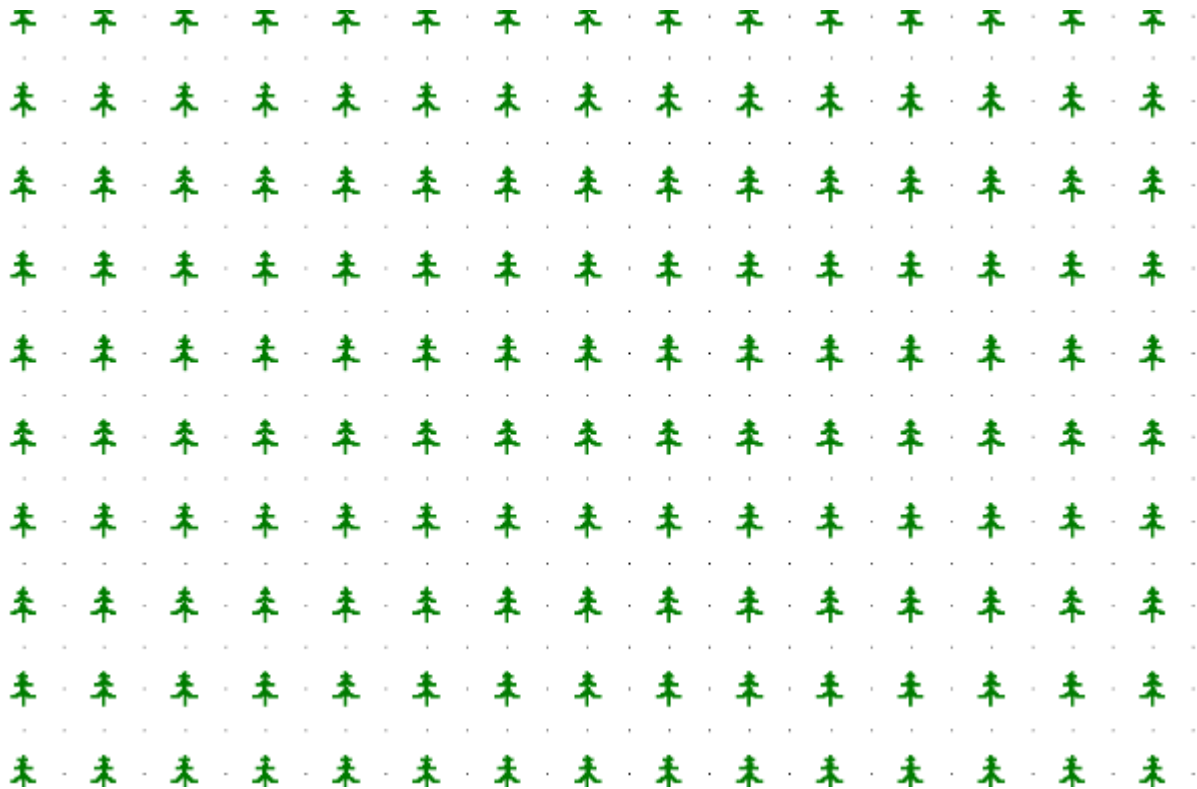

Figure CMS 2
5. Click on the grid point where the tree is placed as the reference point. Move the ghosted symbols to the right of the original symbol and left-click. Then move the cursor down at right angles to the previous ghosted row of trees and left-click. You now have a block of trees 14 x 15. See Figure CMS 2.